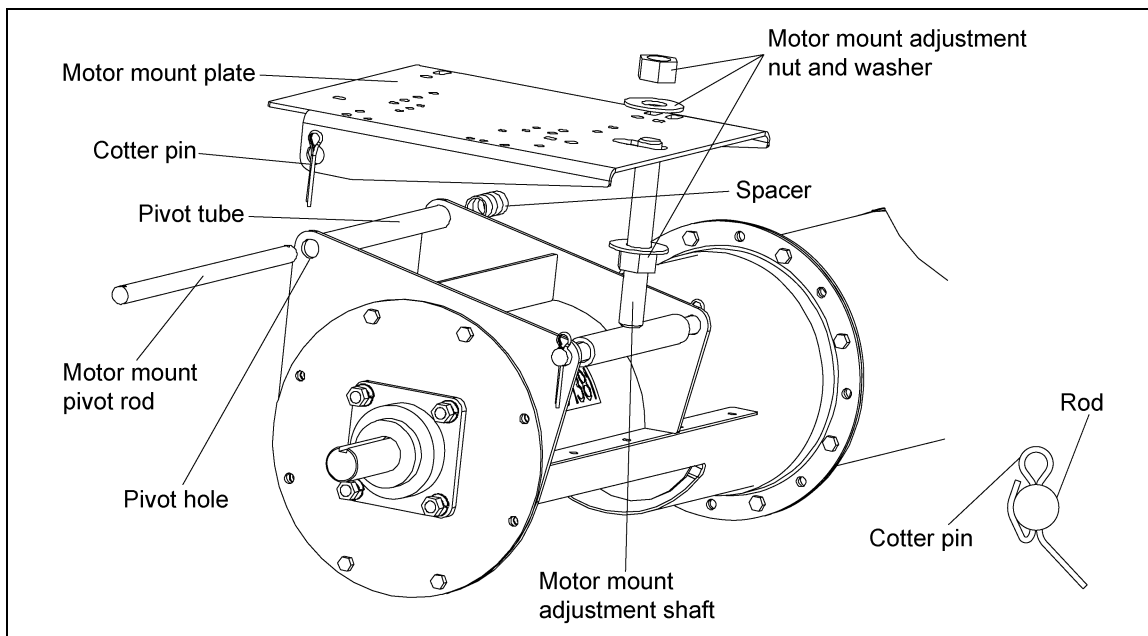

Figure 4E
1. Secure one (1) of the motor mount adjustment nuts and one (1) the motor mount adjustment washers approximately 3/4 of the way down the motor mount adjuster's threaded shaft.
2. Once the nut and washer is secure, slip the motor mount plate over the adjuster and align the pivot holes with the pivot tube. (See Figure 4E.)